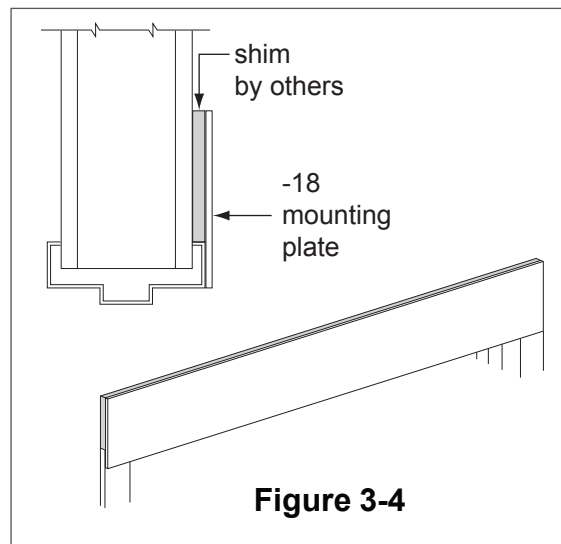

Figure 3-4
- 3e Hollow metal and wood frames require the use of a -18 mounting plate, sold separately (Figure 3-4).